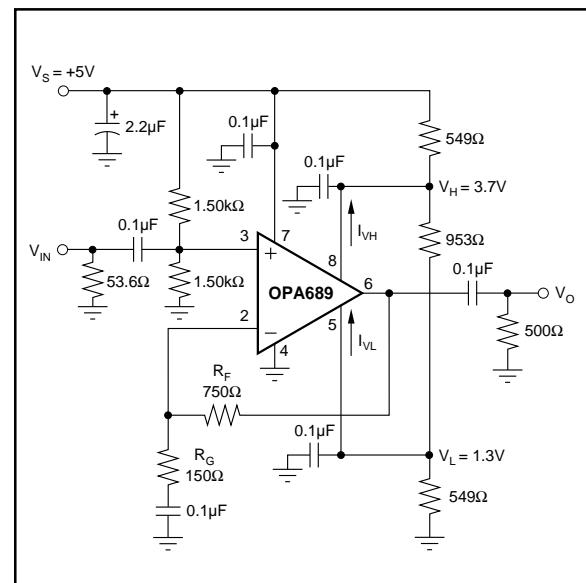

FIGURE 2. AC-Coupled, Single Supply Amplifier.
$G = +6$ ,  $R_F = 750\Omega$ ,  $R_L = 500\Omega$  tied to  $V_{CM} = 2.5V$ ,  $V_L = V_{CM} - 1.2V$ ,  $V_H = V_{CM} + 1.2V$ , (Figure 2 for AC performance only), unless otherwise noted.
NOTES: (1) Junction Temperature = Ambient Temperature for low temperature limit and 25°C guaranteed specifications. Junction Temperature = Ambient Temperature + 23°C at high temperature limit guaranteed specifications. (2) TEST LEVELS: (A) 100% tested at 25°C. Over temperature limits by characterization and simulation. (B) Limits set by characterization and simulation. (C) Typical value for information only. (3) Current is considered positive out of node. (4) CMRR tested as < 3dB degradation from minimum CMRR at specified limits. (5)  $I_{VH}$  ( $V_H$  bias current) is negative, and  $I_{VL}$  ( $V_L$  bias current) is positive, under these conditions. See Figures 2 and 7. (6) Limiter feedthrough is the ratio of a sinewave added to  $V_H$  (or  $V_L$ ) to the output magnitude when  $V_{IN} = 0$ . (7)  $V_H$  slew rate conditions are:  $V_{IN} = +0.7V$ ,  $G = +6$ ,  $V_L = -2V$ ,  $V_H$  = step between 2V and 0V.  $V_L$  slew rate conditions are similar. (8) Linearity Guardband is defined for an output sinusoid ( $f = 1MHz$ ,  $V_O = 2Vp-p$ ) centered between the limiter levels ( $V_H$  and  $V_L$ ). It is the difference between the limiter level and the peak output voltage where SFDR decreases by 3dB (see Figure 8).
$G = +6$ ,  $R_F = 402\Omega$ ,  $R_L = 500\Omega$  tied to  $V_{CM} = 2.5V$ ,  $V_L = V_{CM} - 1.2V$ ,  $V_H = V_{CM} + 1.2V$ , (Figure 2 for AC performance only), unless otherwise noted.
Figure 2 shows an AC coupled, non-inverting gain amplifier for single supply operation. This circuit was used for AC
The OPA689 is nominally specified for operation using either  $\pm 5\text{V}$  or  $+5\text{V}$  supplies. The maximum specified total supply voltage of 13V allows reasonable tolerances on the supplies. Higher supply voltages can break down internal junctions, possibly leading to catastrophic failure. Single supply operation is possible as long as common mode voltage constraints are observed. The common mode input and output voltage specifications can be interpreted as a required headroom to the supply voltage. Observing this input and output headroom requirement will allow design of non-standard or single supply operation circuits. Figure 2 shows one approach to single-supply operation.
When the limiter voltages need to be within 2.1V of the supplies ( $V_L \leq -V_S + 2.1V$  or  $V_H \geq +V_S - 2.1V$ ), use low impedance voltage sources to set  $V_H$  and  $V_L$ . This will typically be the case for single supply operation ( $V_S = +5V$ ). Figure 2 runs 2.5mA through the resistive divider that sets  $V_H$  and  $V_L$ . This keeps errors due to  $I_{VH}$  and  $I_{VL} < \pm 1\%$  of the target limit voltages.